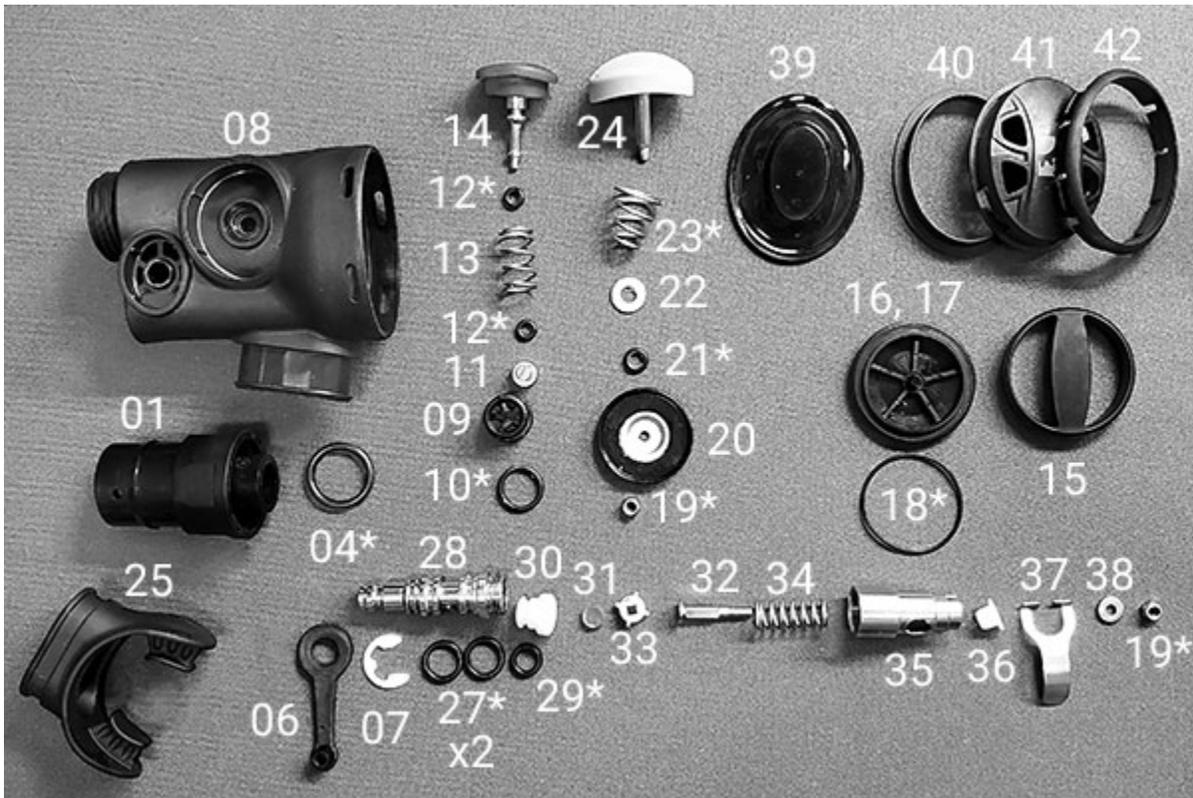
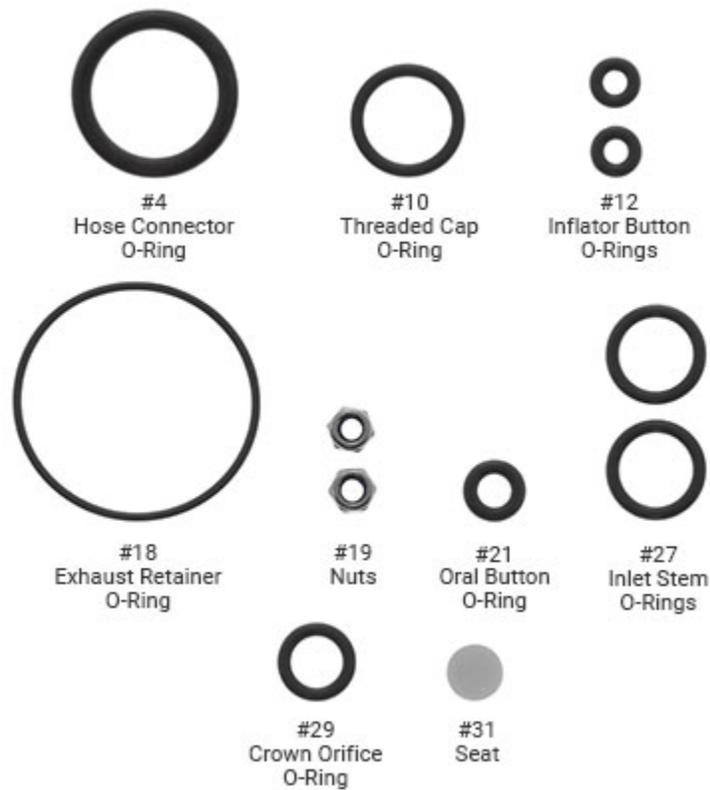

Fig. 27
Fig. 28
(3) The photographs below show the disassembled regulator - Fig. 27 - and Service Parts Kit - Fig. 28. All the parts not in the service kit need to be washed, rinsed and dried, as discussed previously. O-rings and washers that will be replaced with new from the service kit should be discarded.